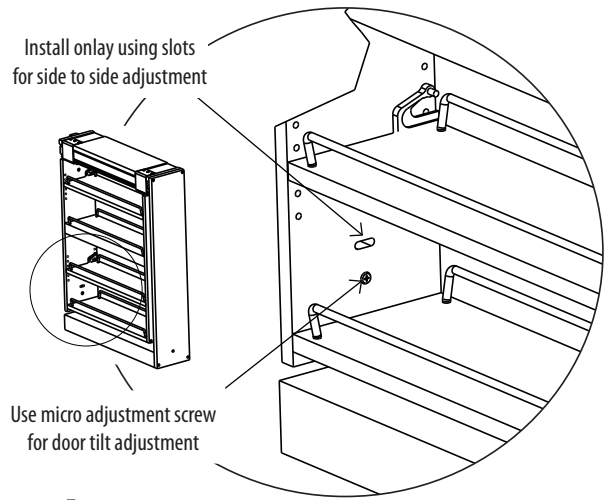

Fig 5
Step 7. Attach onlays or door panels. (not provided). (See Fig 5)